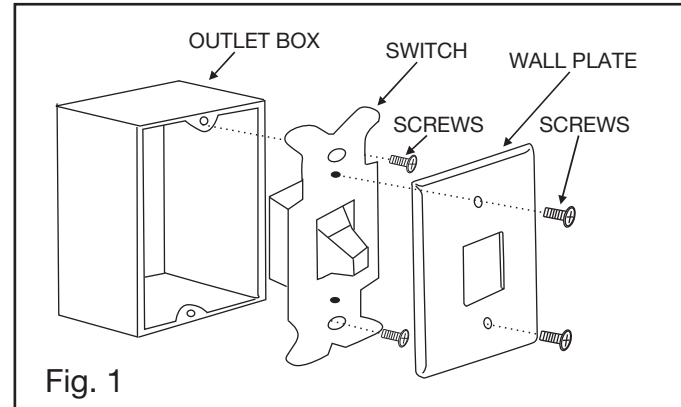

Fig. 1
- 1 Remove ball from downrod by loosening set screw in the side of the ball. Slide ball down and remove ball pin; remove ball. (Fig. 1)
- 1 Disconnect the power and remove the existing wall plate and switch from the wall junction box. (Fig. 1)
- 1 Remove one of the three screws on the mounting hub located on the fan motor. Loosen the other 2 screws. (Do not remove) (Fig. 1)